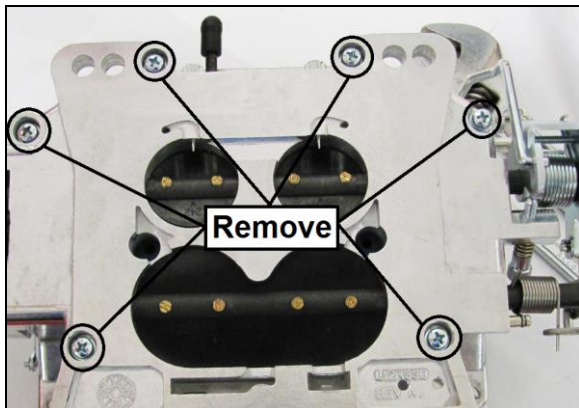

Figure 24
6. Remove the six Phillips head screws from the bottom of the carburetor as circled in (Fig. 24).